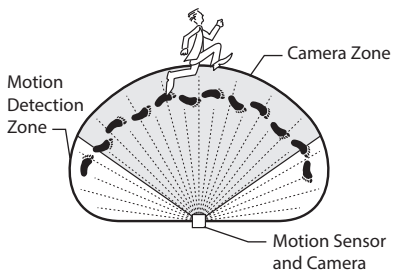

Figure 7
7. Walk through the coverage area noting where you are when the lights turn on. Also, the LED indicator behind the motion sensor lens will glow blue when motion is detected (see Figure 7).